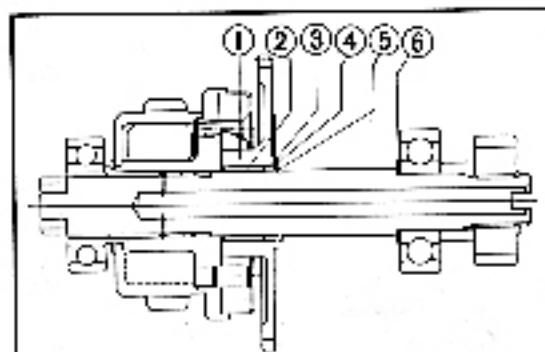

Fig. 166 ① Starting clutch gear
② Needle bearing (25x29x17)
③ 25 mm spacer
④ 25 mm thrust washer
⑤ 25 mm snap ring
⑥ 22 mm thrust washer
5. Reassemble the kick starter components in accordance with Fig. 166.